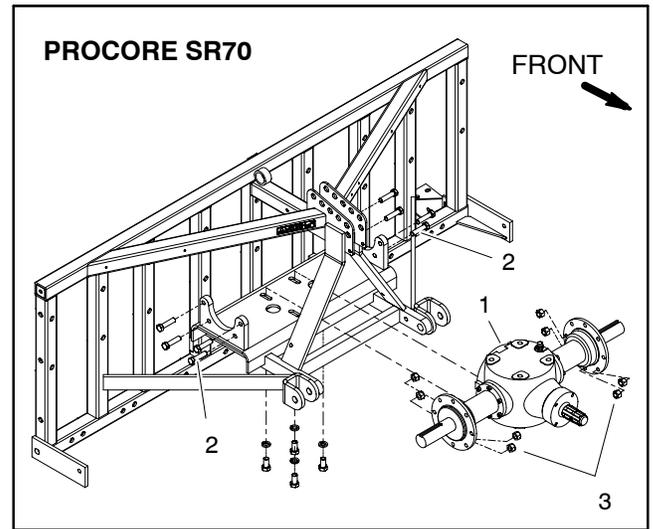

Figure 18
5. Remove four (4) cap screws, lock washers and flat washers that secure driveshaft shield (item 19) to gearbox. Remove shield.
8. On SR70 aerators, remove saddle bolts and lock nuts that secure gearbox flanges to aerator frame brackets (Fig. 18).
9. Remove four (4) cap screws and lock washers that secure gearbox to aerator frame.
1. Position gearbox to aerator frame. Secure gearbox to frame with four (4) cap screws and lock washers.
2. On SR70 aerators, secure gearbox flanges to aerator frame brackets with bolts and lock nuts (Fig. 18).
5. Position driveshaft shield (item 19) to gearbox and secure with four (4) cap screws, lock washers and flat washers.